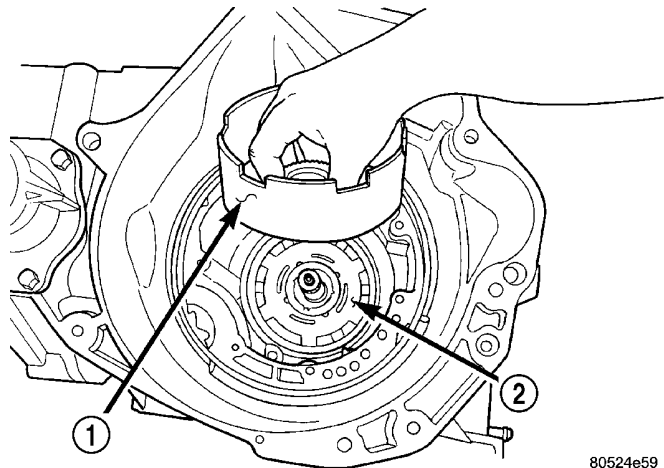
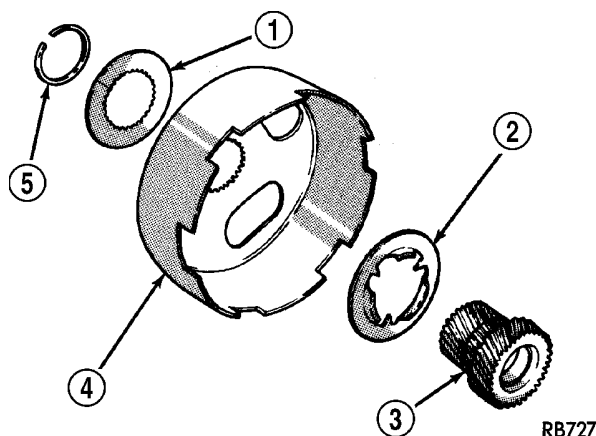

Fig. 36 Sun Gear Driving Shell
Fig. 37 Sun Gear Driving Shell Components
(37) Remove sun gear driving shell (Fig. 36) (Fig. 37).